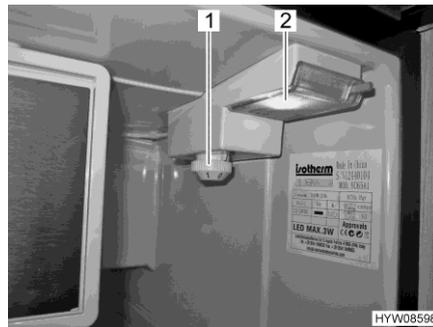

Fig. 121 Operating control (refrigerator)
- Rotate the temperature controller (Fig. 121,1) clockwise from the "0" position to the "1" position. The device is switched on, the interior lighting (Fig. 121,2) is on.
- Rotate the temperature controller (Fig. 121,1) anti-clockwise to the "0" position. A small amount of resistance will be felt.
- Set the temperature with the temperature controller (Fig. 121,1).